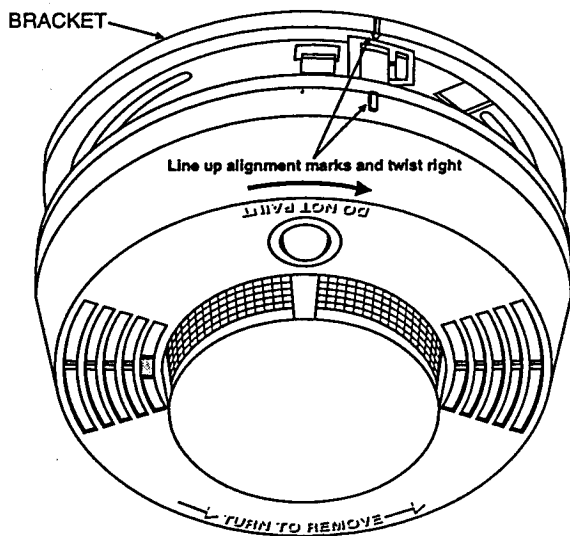

Figure 6. Attaching the Sensor to the Bracket
4. Attach the sensor to the mounting bracket by aligning the arrows on the mounting bracket with the raised alignment mark on the smoke sensor and turn the sensor clockwise until it locks in place (see Figure 6).